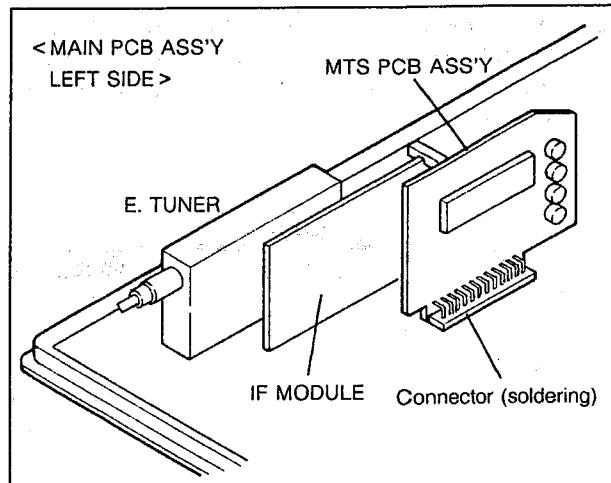

Fig. 4
1. Pull the MAIN PCB Ass'y outward and unsolder the connections indicated in Fig. 4.